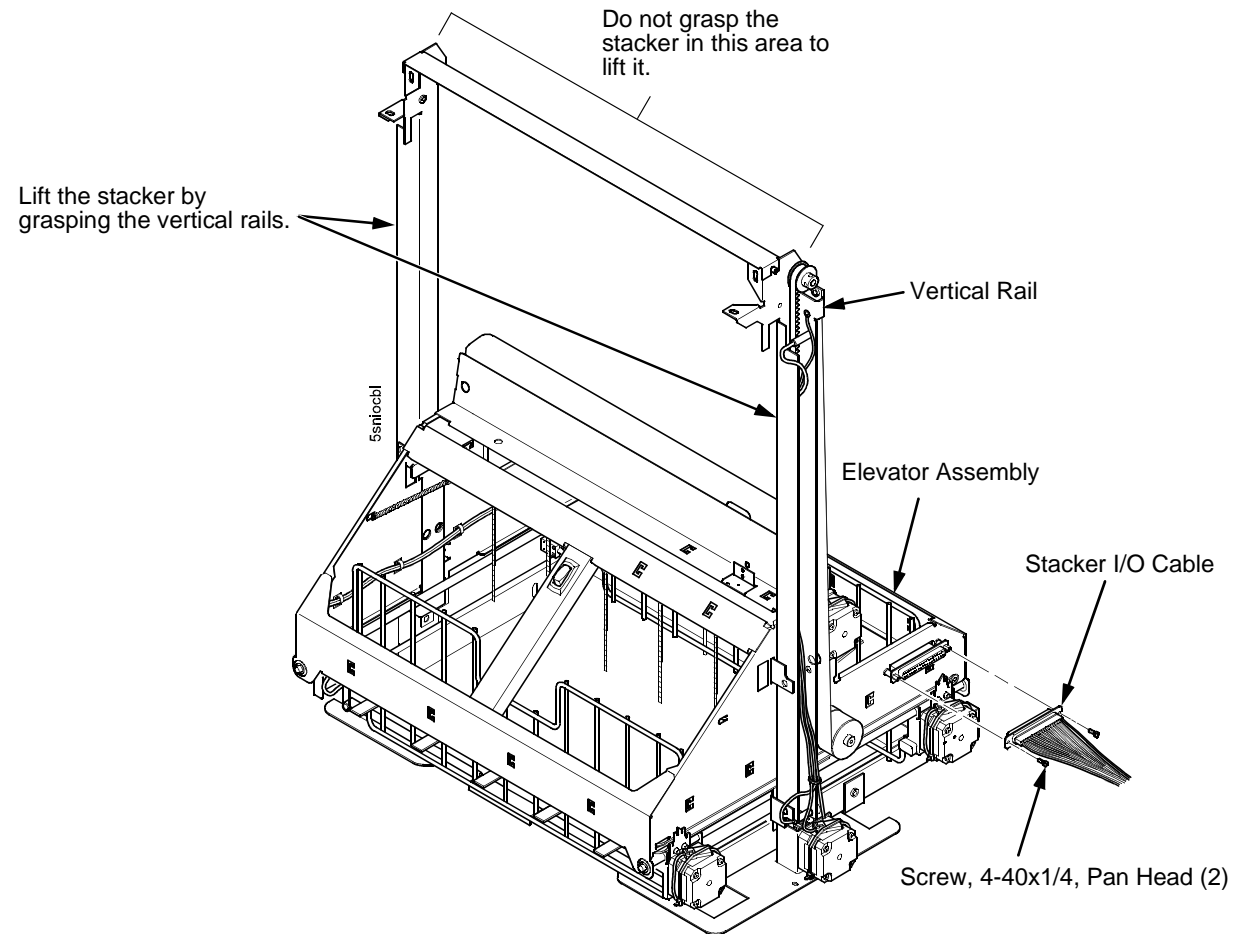

Figure 89. This figure shows where to connect the stacker I/O cable to the stacker elevator.
17. Position the elevator assembly at the bottom of the vertical rails. (Figure 89.)
18. Connect the elevator I/O cable to the elevator assembly and install the two 4-40 x 1/4 inch screws, as shown in Figure 89.